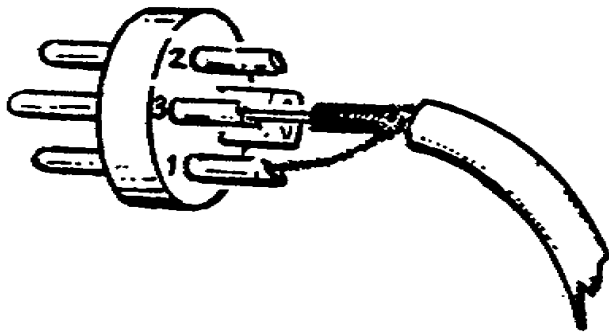

Figure 3-8. Three-conductor plug, male
b. You will also find plug receptacles on some monitors and 1-inch VTRs. These plugs are heavy-duty plugs originally designed to connect microphones to control consoles in recording studios. The plugs and associated receptacles can be either male or female, depending on the manufacturer. These plugs are three-conductor plugs with three pins sticking out of the male jack or receptacle (fig 3-8). There are three holes in the female jack or receptacle. Pin No. 1 of the three-conductor terminals is designed to be used as an overall shield connection. Pin No. 2 is used for the signal conductor, and pin number three for the ground (fig 39).